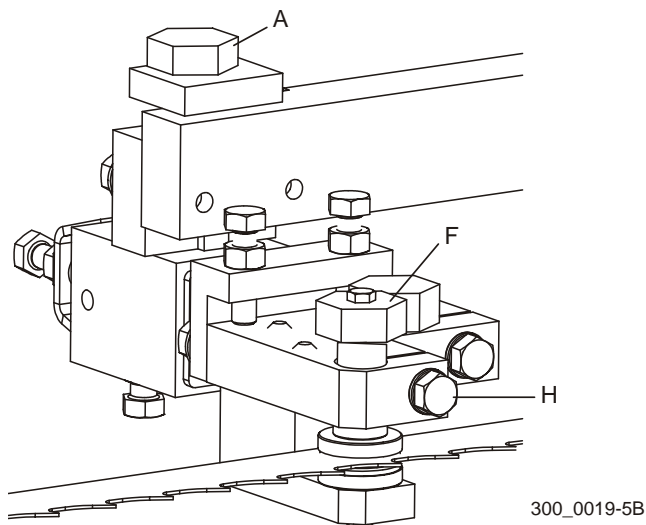

FIG. 5-46
See Figure 5-46. Turn bolt (F) counterclockwise to raise the top guide disk off the blade. Turn bolt (A) counterclockwise to lower the bottom guide disk.